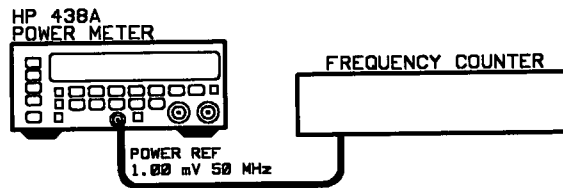

Figure 5-5. Power Reference Oscillator Frequency Adjustment Setup
1. Connect the equipment as shown in Figure 5-5 and set up the counter to measure frequency.
3. Connect the test power meter to the power meter as shown in Figure 5-5.